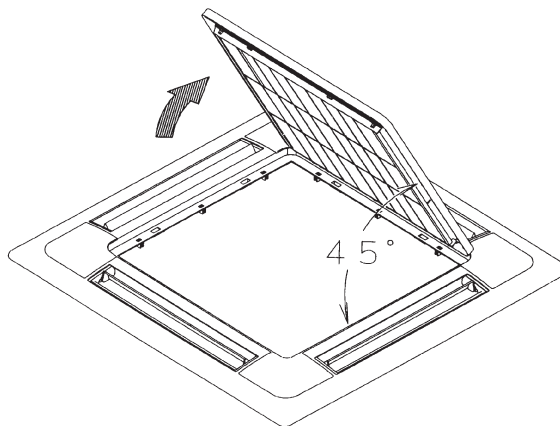

Fig. 2
- (1) Remove the suction grille from the decoration panel.
- ① Push the suction grille lever inward and lift up the lever side. ② Detach the suction grille from the decoration panel by lifting the grille up approximately 45 degrees. (Refer to Fig. 2)